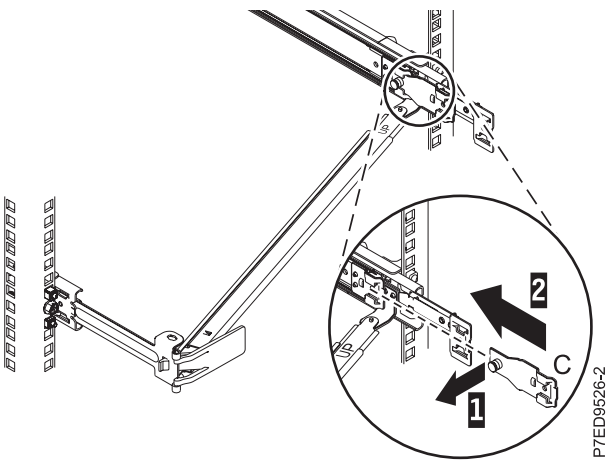

Figure 16. Installing the mounting bracket into the slide rail
5. Attach the mounting bracket (C) to the slot on the inside of the right slide by pulling the pin out (1), and sliding the mounting bracket (C) into the slide rail until the spring-loaded pin snaps into place (2), as shown in Figure 16.